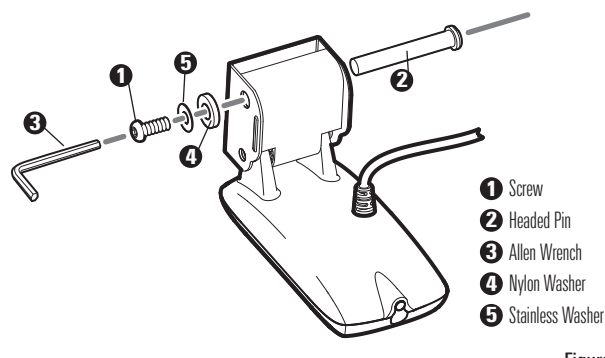

Figure 8
3. Place the nylon washer over the opposite end of the headed pin. Place the stainless washer over the 1/4"-20 x 3/4" (19 mm) screw threads, then insert into the opposite end of the headed pin and finger tighten only (Figure 8). The screw has a thread locking compound on the threads to prevent loosening, and should not be fully tightened until all adjustments are made.